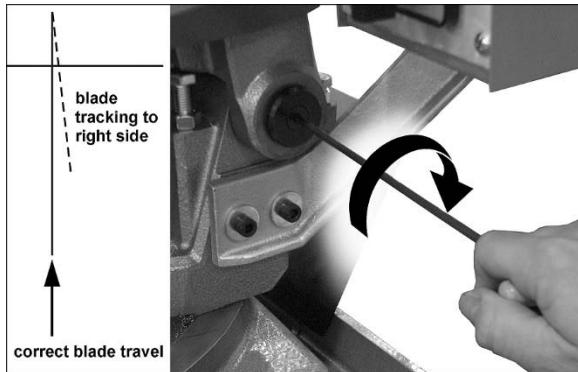

Figure 13-3
2. If blade tracks to right side (viewed from front of machine), rotate *right* socket screw *clockwise* (Figure 13-3) with 5mm hex wrench.